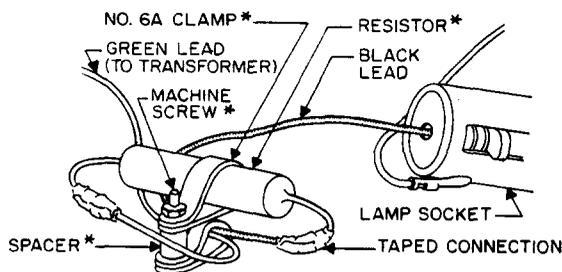

Fig. 2 - Lamp Voltage Modification. Items Marked With an Asterisk (*) are New Parts. For List of Parts, see 3.01.
- (1) Remove the chassis as covered in 2.04(1).
- (2) Remove the screw from the cable clamp that holds the clinch nut connecting the black lamp socket lead to the green transformer lead. Discard the screw, saving the nut and washer.
- (3) Using wire cutters, remove and discard the clinch nut.
- (4) Referring to Fig. 2, assemble modification parts, with nut and washer from (2), to the chassis but do not tighten.
- (5) Fasten and solder ends of green and black wires to the resistor leads, obtaining needed slack by drawing wires through bottom clamp. Tape all exposed wiring.
- (6) Fasten parts down securely taking care not to damage the resistor.
- (7) After cleaning all optical components, re-assemble chassis in reader as covered in 2.04(2).